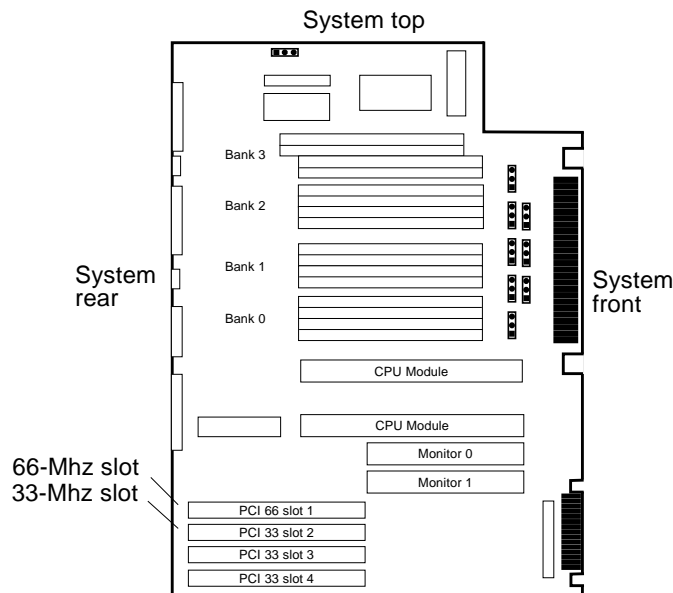

FIGURE 2-1 Ultra 60 PCI 66-Mhz and 33-Mhz Connector Locations
3. Locate the Ultra 60 PCI 66-Mhz and 33-Mhz connectors (FIGURE 2-1).